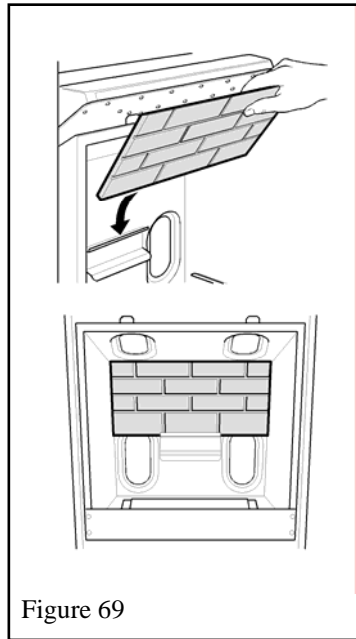

Figure 69
1. Locate the ceramic rear wall in the channel at back of the firebox and flat against the back of the firebox. See figure 69.